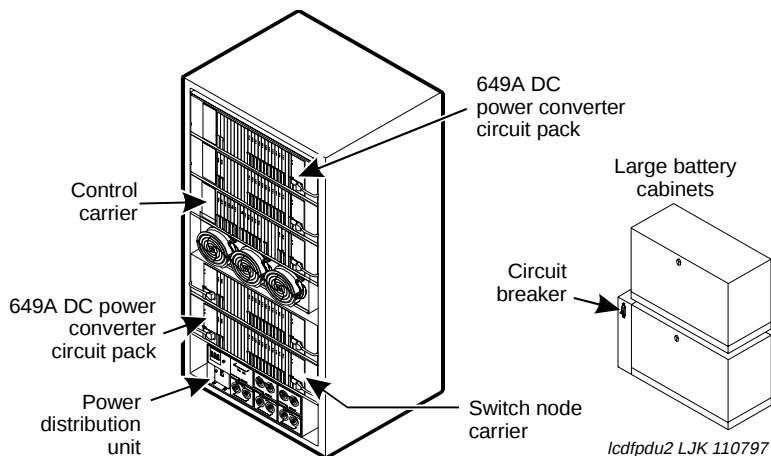

Figure 30. DC Power Distribution in Multicarrier Cabinets
Figure 30 shows the DC-power distribution in some Multi-Carrier Cabinets with extended battery backup (large batteries). In R7r and later systems, the power distribution cables are on the right side of the cabinet only. This is because the 649A DC power converter circuit pack replaces 2 power converters at either end of each carrier. Switch node (SN) carriers require two 649As and two cables.